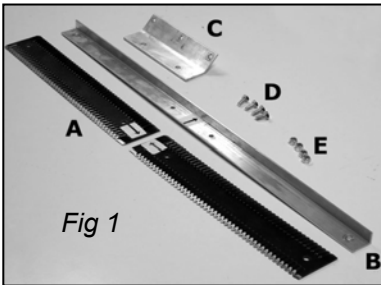

Fig 1
1. Lay the 2 serrated steel blades (A) with the WARNING label side face down and arrange the arrows so that they are pointing towards each other (*figure 1*).